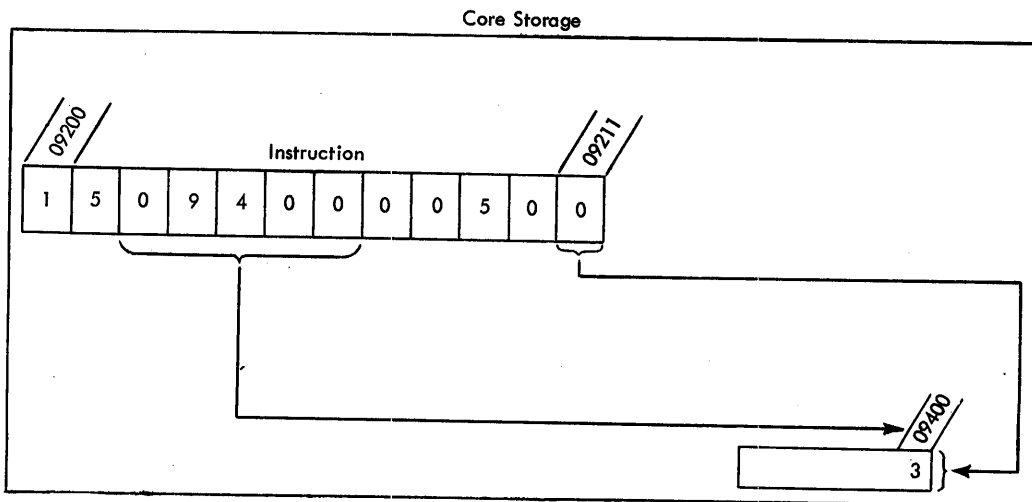

Figure 16. Transmit Digit Immediate
In Figure 16, if the Transmit Digit Immediate instruction (15 09400 00500) is at 09200, the digit (0) at 09211 is transmitted to the P address (09400) of the instruction. The 3 at 09400 is replaced by the 0, which also remains in 09211.